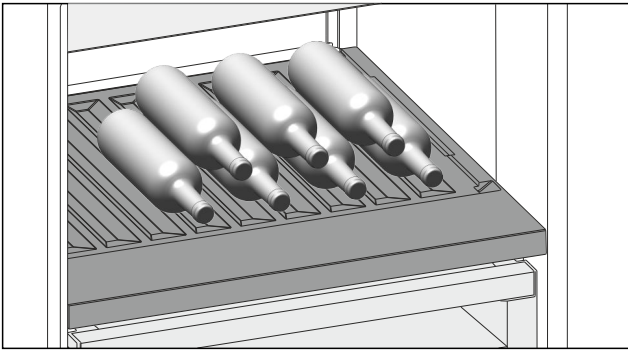

Fig. 168 Example illustration
- ▶ Place bottles in the back row with their bases against the back wall. (see Fig. 168)